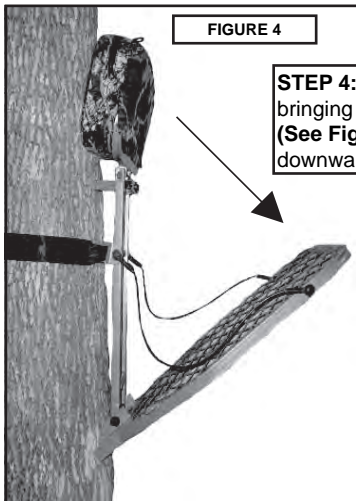

FIGURE 4
STEP 4: Unfold the stand by bringing the platform downward (See Fig.4) Pull seat platform downward and adjust seat.